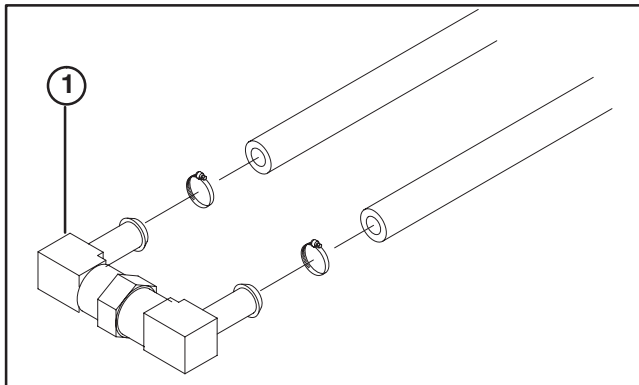

Figure 19
65. Install elbow fitting assembly and hose to the fuel filter with clamp. Secure fuel tank hose to elbow fitting assembly (Fig. 19).